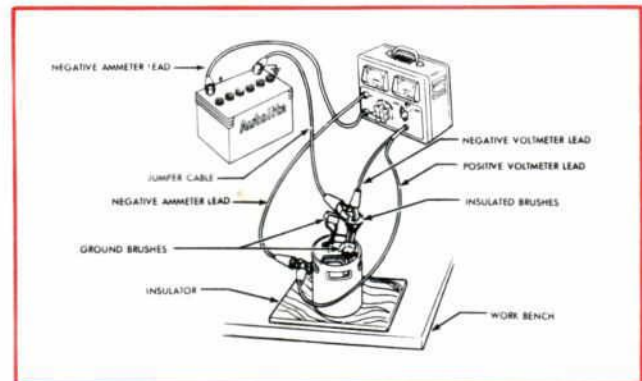

Figure 6—Field Coil Open Circuit Test
4. Connect a heavy jumper wire from the negative battery post to the two insulated brushes (figure 6).